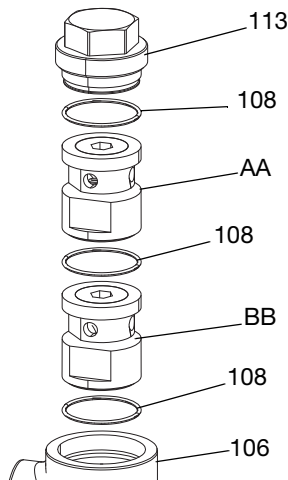

FIG. 9
5. Assemble lower check assembly (BB) using the steps 1 through 4 above.
6. Install the o-ring (108) into the inlet housing (106).
7. Install lower check (BB) into the housing (106) in the orientation shown.
8. Install the o-ring (108) into the inlet housing (106).
9. Install upper check assembly (AA) into the inlet housing (106) in the orientation shown.
10. Install o-ring (108) on valve inlet cap (113) and apply anti-seize lubricant to valve inlet cap threads. Torque inlet cap to 70 ft-lbs. (95 N•m). See FIG. 9 .